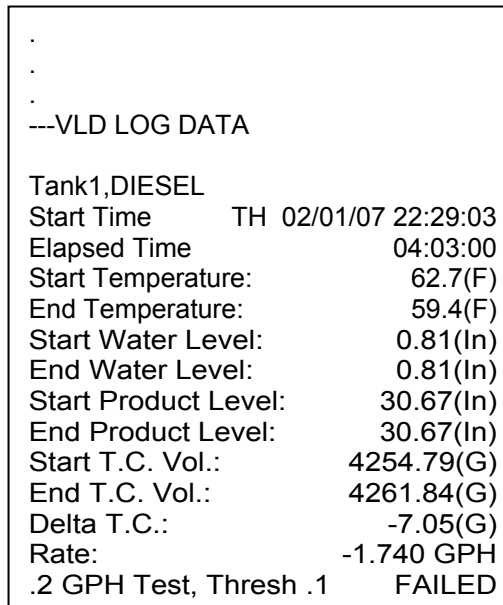

Figure 3-20b: VLD Log Data
- ◆ PRNT LOG – provides a printout of the VLD Log Data (see Figure 3-20b).
3. If you didn't choose all tanks (0) in Step 2, you can repeat Steps 1 and 2 for each additional tank to be tested. A printout will be provided when testing is completed (see Figure 3-20b).